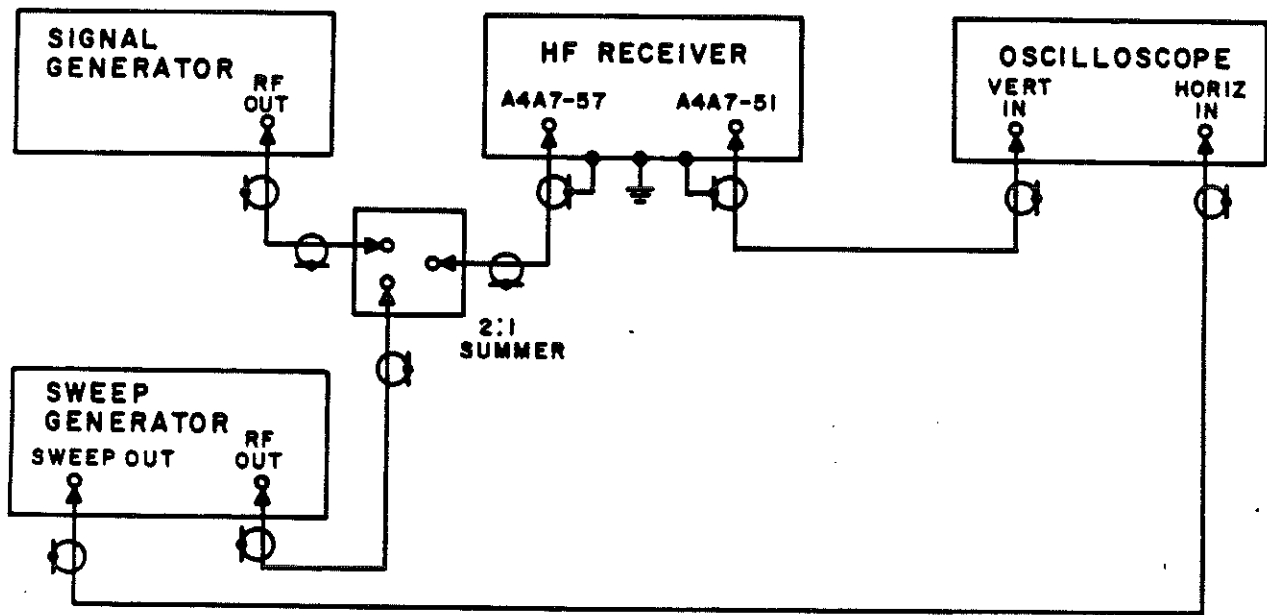

Figure 4-4. 455 kHz Amplifier/AM Detector Response Alignment, Test Setup
3. Connect the test equipment as shown in Figure 4-4.